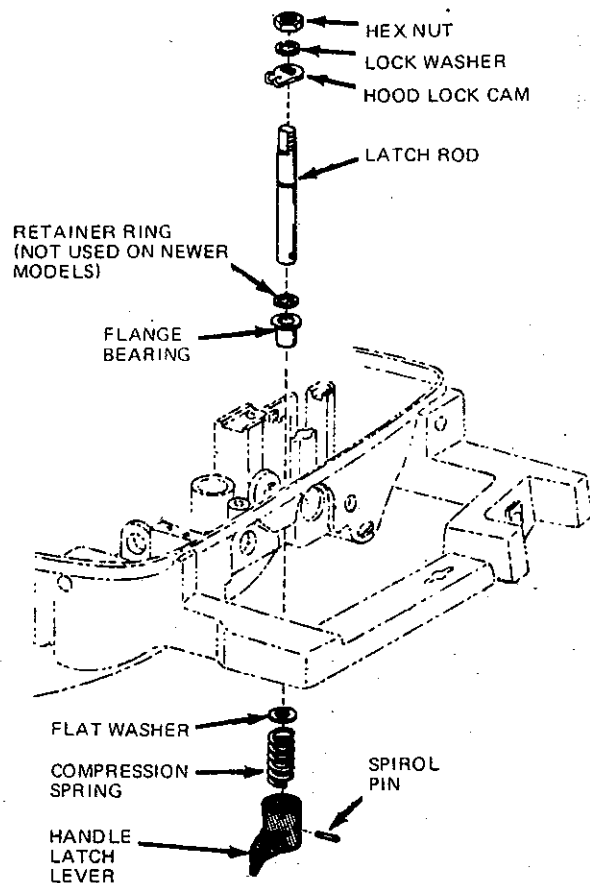

Figure 24
- (9) Pull the center shift rod out of the adaptor housing.
- (10) Remove the exhaust deflector from the adaptor housing.
**D. HANDLE LATCH LEVER (Figure 24). This mechanism is located in the center of the control panel.**
- (1) Using a 1/2-inch wrench, remove the hex nut, lockwasher, and hood lock cam.